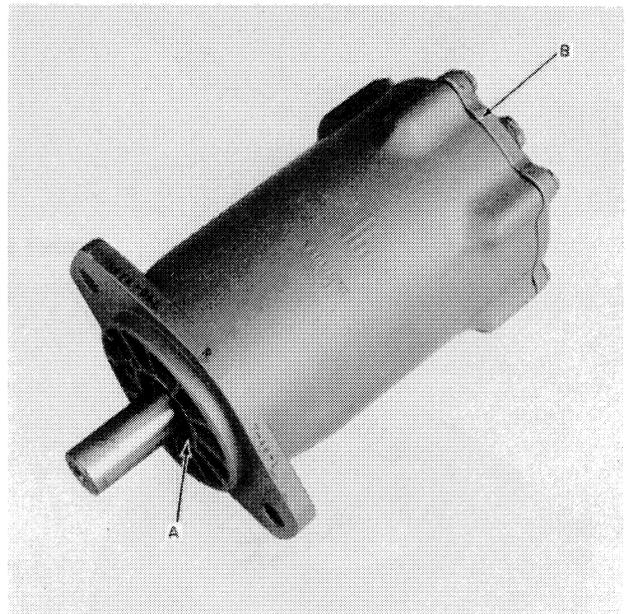

FIGURE 21
2. Remove retaining ring from housing assembly, A, Figure 21.